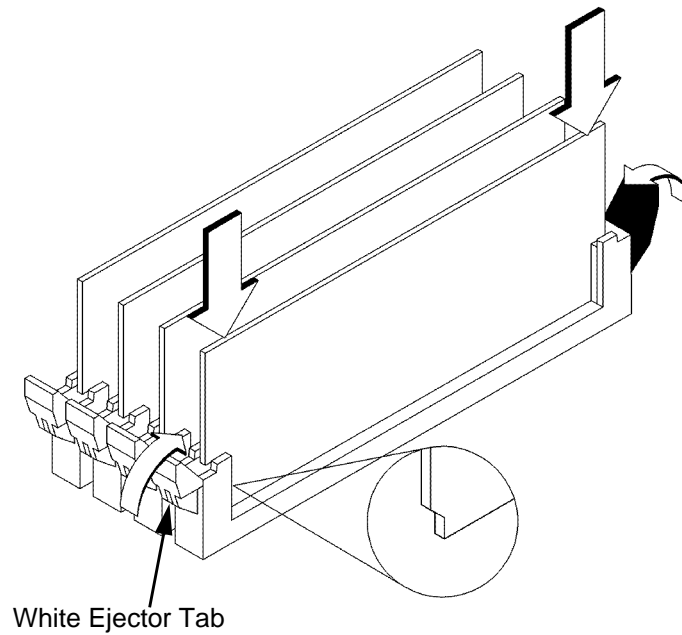

Figure 41
- 3 Close the ejector tabs on each side of the memory connector to lessen the force needed to seat the memory module. See Figure 41.
- 4 Place the memory module in the connector, lining it up with the guides. Make sure to put the notched end toward the white ejector tab, as shown in Figure 41.